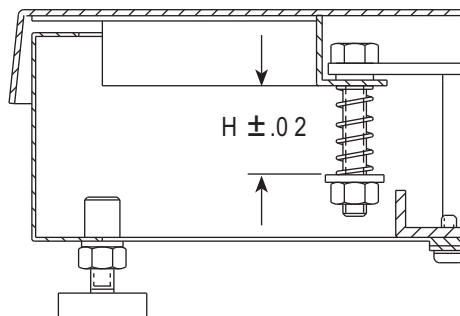

Figure 3-3. Spring Height
11. Using an accurate caliper, check compressed spring length on four overload springs (Figure 3-3 on page 11). If necessary, adjust spring length to specifications shown in Table 3-4 on page 11. Replace top cover and re-level scale if necessary.